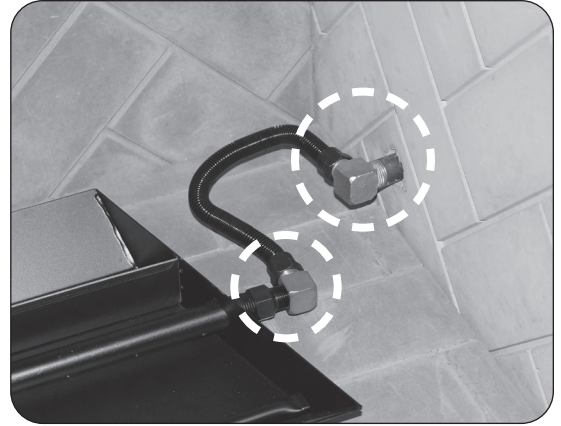

Fig. 11-1 Perform leak test
7. **LEAK TEST:** Use a long-necked butane lighter, or lay a lighted match next to the burner pipe, and carefully turn on the gas supply until the burner ignites. Test at all connections for leaks using the appropriate soapy water solution. See Fig. 11-1. If bubbles appear, a leak is present. Turn off the gas and tighten at all connections. Repeat until no leaks are present. If a leak persists, turn off the gas supply and contact the local gas company or dealer. **NEVER USE A FLAME TO CHECK FOR LEAKS..**